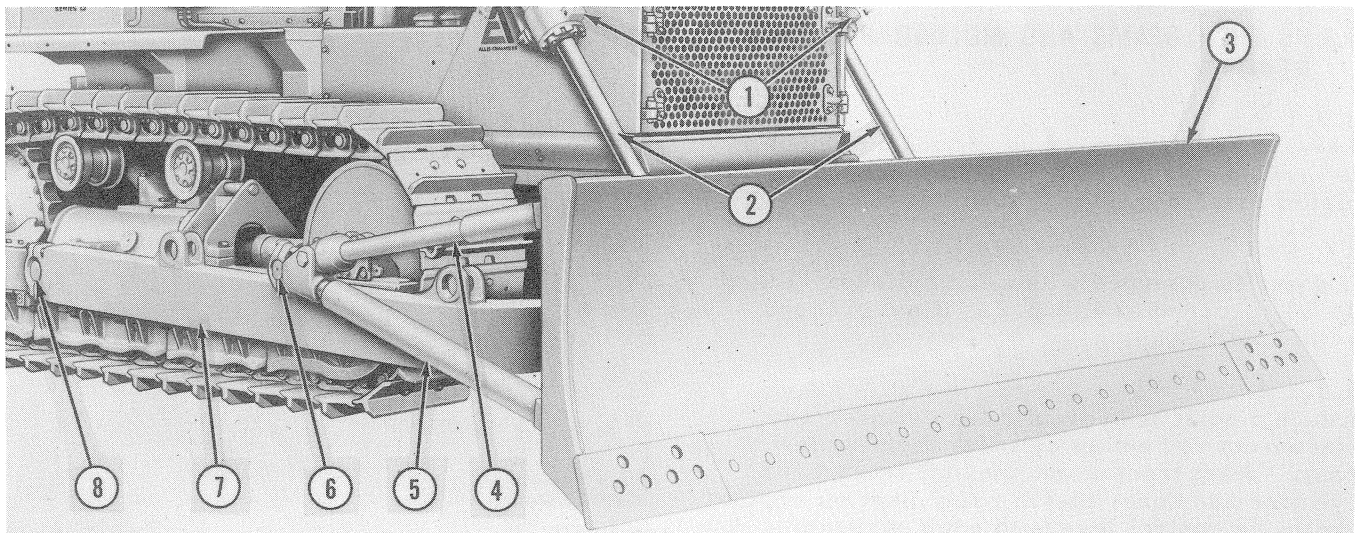

FIG. 33 11HA DOZER (HYDRAULICALLY — OPERATED, ANGLING MOLDBOARD) T-76718
Level dozer moldboard on ground and block up the C-frame, Fig. 33 (7), so that tension on C-frame trunnions (5) is minimized. Shut off engine and relieve trapped hydraulic pressure by moving control lever to each position several times.
Disconnect moldboard struts from C-frame at swivel pin location, Fig. 33 (6), and remove moldboard.
Connect piston rods, Fig. 33 (2), to C-frame.
Place moldboard in position on C-frame with strut brackets snug against swivel pins, Fig. 33 (6). Install pivot pin and collar connecting moldboard to C-frame.